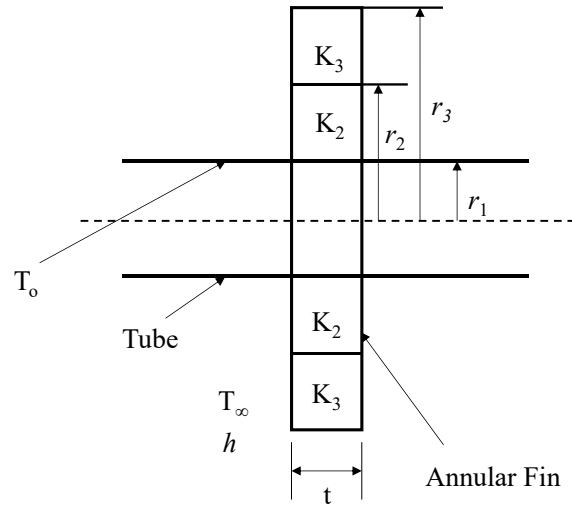

Figure 1 Annular fin of composite material
2. Consider an annular fin put on a tube (of outer radius $r_1 = 1.25$ cm) as shown in Fig. 1. The fin is made from two materials. The inner material has radius $r_2 = 2.5$ cm and conductivity $k_2 = 200$ W/m K and the outer material extends to radius $r_3 = 3.75$ cm and has conductivity $k_3 = 40$ W/m K. The fin-thickness $t = 1$ mm. The tube wall (and hence the fin base) temperature is $T_0 = 200$ °C. The fin experiences heat transfer coefficient $h = 20$ W/m² K and the ambient temperature is $T_\infty = 25$ °C. Assuming conduction to be radial